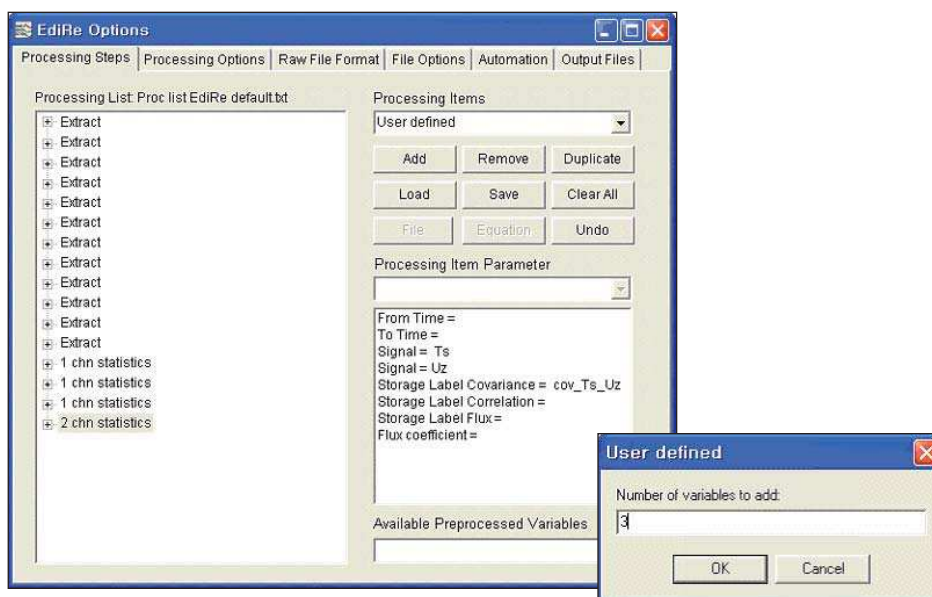

Figure 13: In the User defined instruction, enter 3 for a number of variables to be used in the equation.
23. Once the mean values for e_{hmp} , t_{hmp} and $press$ are computed, we can use “User defined” instruction from “Processing Items” to compute the mean air density ρ_{mean} . Figures 13 through 16 show how to compute the mean air density value using “User defined” instruction, and finally compute the sensible heat flux coefficient $\rho \cdot C_p$.